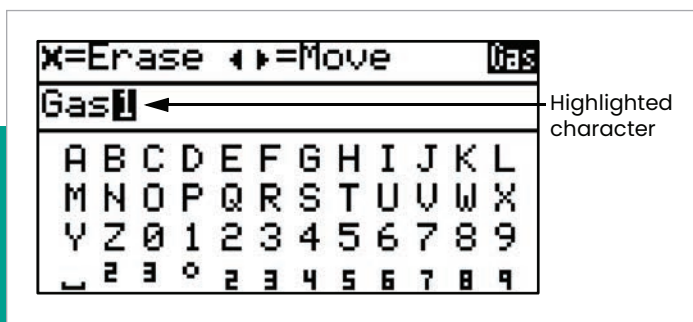

Figure 43: Text edit
- Pressing the *down* arrow will move the highlight to the *text edit* section (see Figure 43 below):